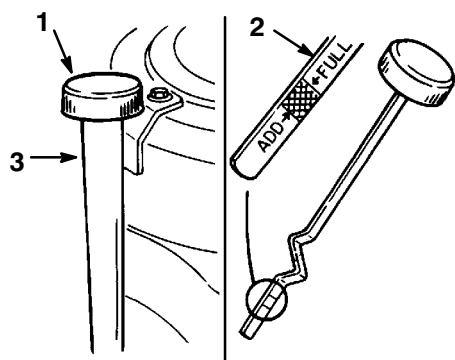

Figure 31
3. Clean around the oil dipstick (Fig. 31) so dirt cannot fall into the filler hole and damage the engine.
4. Unscrew the oil dipstick and wipe the metal end clean (Fig. 31).
5. Screw the oil dipstick fully onto the filler tube (Fig. 31). Unscrew the dipstick again and look at the metal end. If oil level is low, slowly pour only enough oil into the filler tube to raise the level to the "FULL" mark.
7. Slowly pour approximately 80% of the specified amount of oil into the filler tube (Fig. 31). Now check the oil level; refer to Checking Oil Level, page 35, steps 4-5.
5. Slowly pour approximately 80% of the specified amount of oil into the filler tube (Fig. 31). Now check the oil level; refer to Checking Oil Level, page 35, steps 4 and 5.